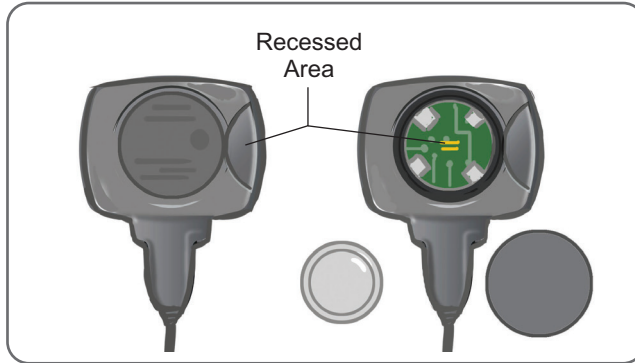

Figure 8-1: Replacing the Foot Sensor Battery
1. Use the recessed area on the back of the Foot Sensor to pop out the battery lid cover. See Figure 8-1.